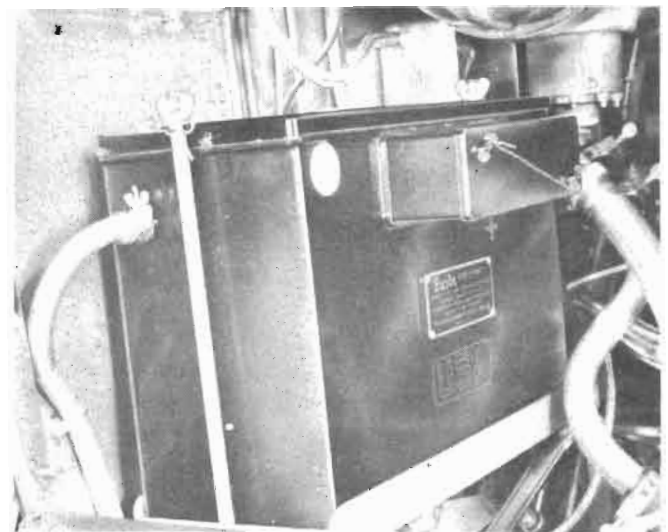

Figure 261 — Storage Battery Installed
(2) STORAGE BATTERY.—(See figure 261.)— A 12-volt, 68-ampere hour, type D-6 storage battery is installed in a covered metal case secured to a support on the right forward side of the fire wall. The battery is readily accessible for inspection and removal by removing the right engine cowling. The cover to the battery case is fitted with a rubber or neoprene gasket which forms a sealed air chamber inside the case to prevent the escape of corrosive gas. Provision is made to neutralize and vent these battery gases outside, as they would damage the metallic structure of the airplane. This is accomplished by a rubber or neoprene tube leading from an air intake in the bottom of the engine cowling to one side of the battery case, and a tube from the opposite side of the battery case leading to a glass jar containing a cellulose sponge disc 1 inch thick and saturated with a solution of tri-sodium phosphate ( $Na_3PO_4$ ). (A solution of sodium bicarbonate [baking soda] may be substituted for this purpose and the sponge may be of felt.) This solution in the jar will neutralize any acid in the battery gases, and a tube from the top of the jar to a vent in the bottom of the cowling will carry the neutralized gas outside the airplane. The jar is accessible through an opening in the lower right side of the engine cowling.